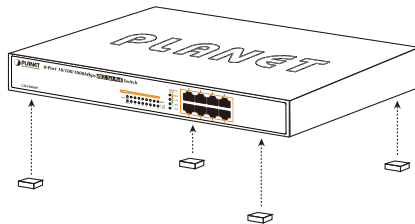

Figure 2-3: Place the Switch on the Desktop
Step 1: Attach the rubber feet to the recessed areas on the bottom of the Switch, as shown in Figure 2-3.